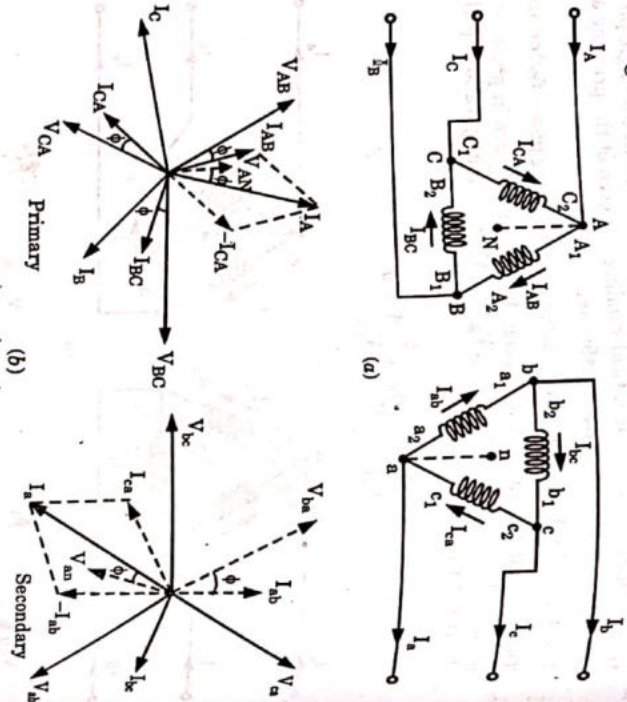

Fig. 3.20.2. Delta-Delta connection of transformer (180° phase shift).
2. In Fig. 3.20.2 delta-delta connection with 180° phase shift is shown.